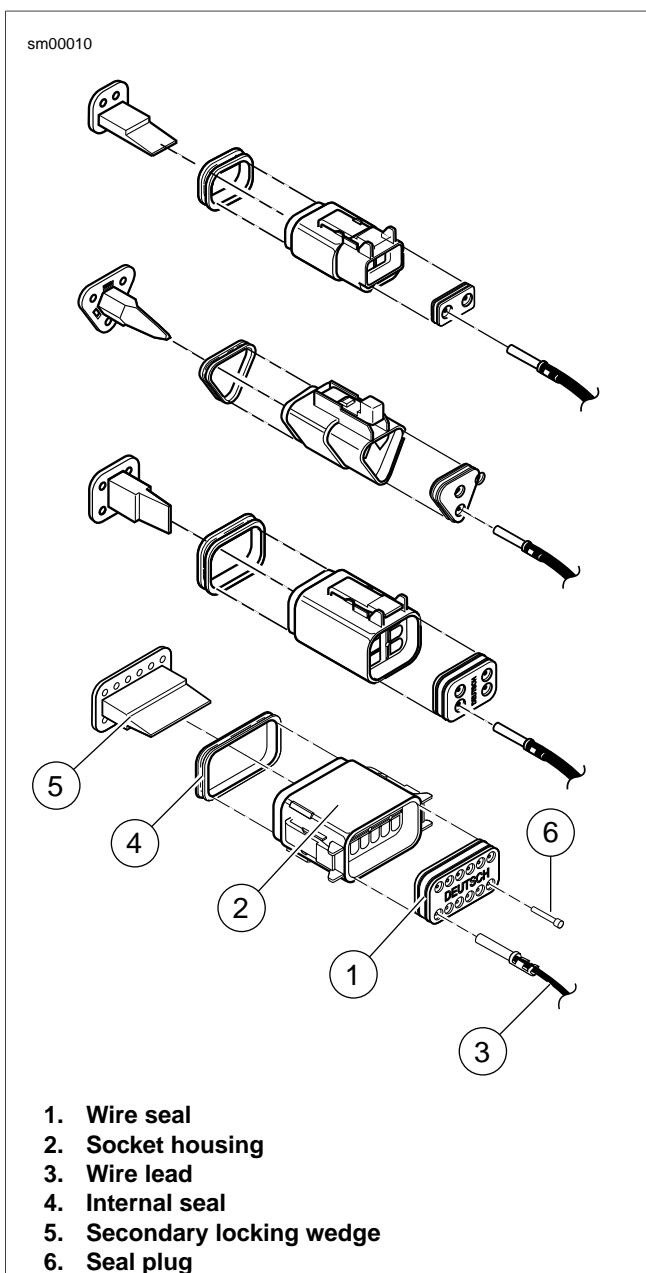

Figure A-13. Deutsch Connector: 2, 3, 4 and 12-Place Socket Housings
- See Figure A-13. Fit rear wire seal (1) into back of socket housing (2), if removed.
- Grasp wire lead (3) approximately 1.0 in. (25.4 mm) behind the socket terminal. Gently push socket through hole in wire seal into its chambers until it "clicks" in place.